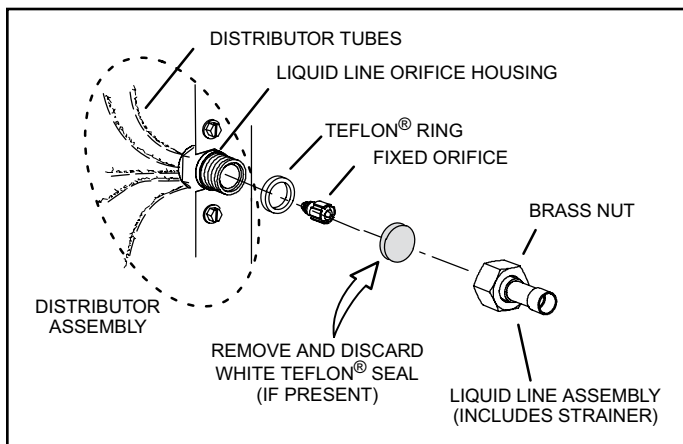

Figure 3. Remove Fixed Orifice (Uncased Coil Shown)
- Remove and discard fixed orifice, valve stem assembly (if present) and Teflon® washer, as shown in Figure 3.